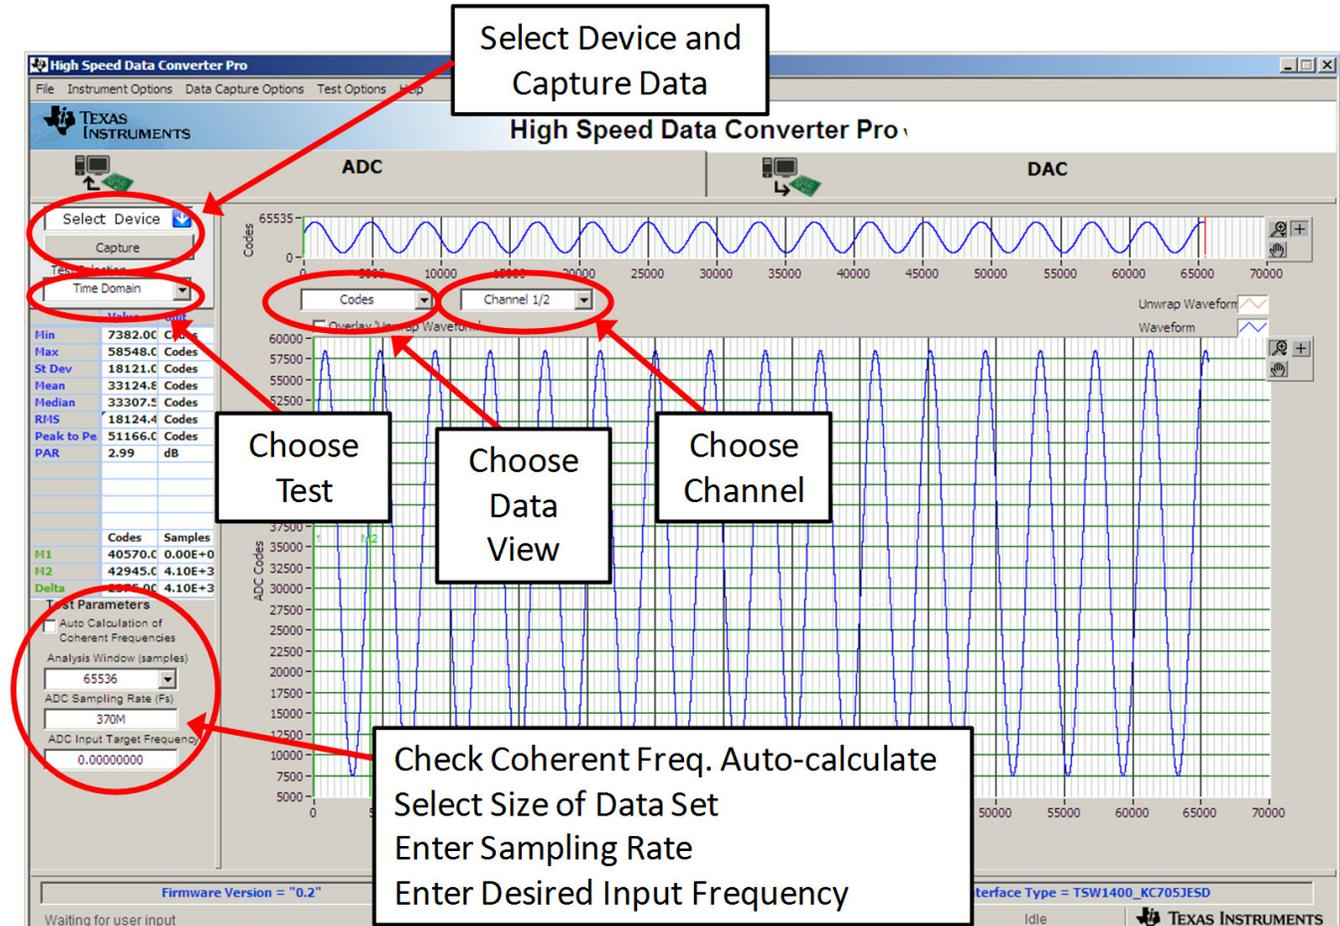

Figure 3. HSDC Pro GUI Main Panel
1. Open *High Speed Data Converter Pro* by going to *Start Menu* → *All Programs* → *Texas Instruments* → *High Speed Data Converter Pro*. Figure 3 illustrates the GUI main page.